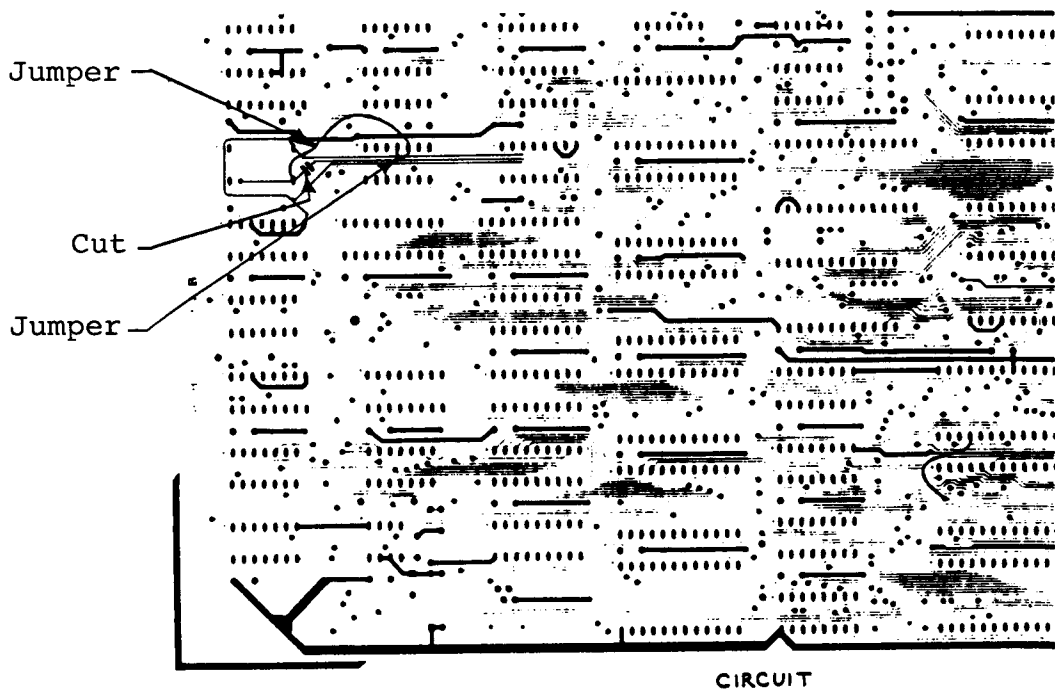

Figure 13-1 Cuts and Jumpers on Logic Board
1. Cut the trace which connects A-23 pin 7 to crystal oscillator 1, as shown in Figure 13-1.
2. Install jumpers between the following locations, as shown in Figures 13-1 and 13-2: